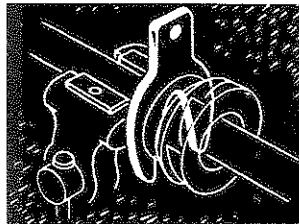

Figure 8
2. Place frog (Figure 8) on shaft and position the shaft in the vise so that scribe mark lines up with the surface of the frog, facing the top of the shaft.